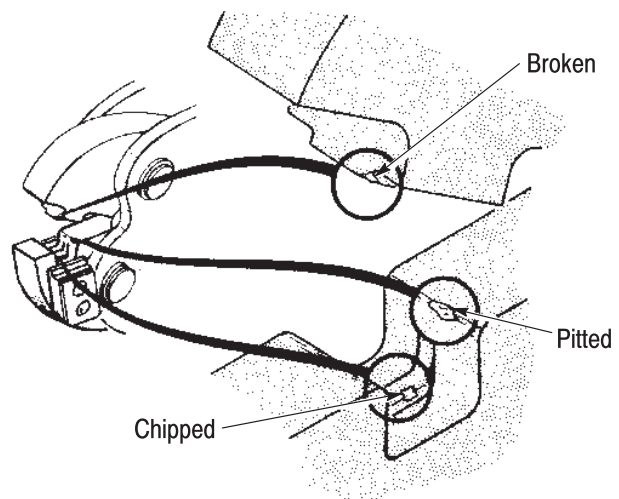

Figure 6
**B.** Inspect the die closure surfaces of the head for broken, pitted, or chipped conditions. Although dies may gage within permissible limits, worn or damaged die closure surfaces are objectionable and can affect the quality of the crimp. Examples of possible damaged die closure surfaces are shown in Figure 6.